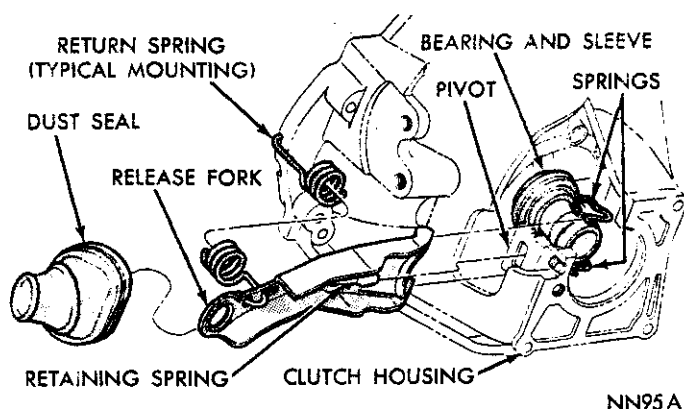

Fig. 8—Clutch Release Fork, Bearing and Sleeve
(5) On all models with the A-903 transmission, remove clip and plain washer securing interlock rod to torque shaft lever and remove spring washer, plain washer and rod from torque shaft.
(6) Remove clutch release bearing and sleeve assembly from clutch release fork (Fig. 8) then remove release fork and boot from clutch housing.
(9) Engage fork fingers under clutch sleeve retaining springs. **Be sure retaining springs on sleeve have lateral freedom** (Fig. 8).
(10) Be sure groove in seal is engaged in seal opening flange in clutch housing (Fig. 8).
(2) Remove spring washer securing fork rod to torque shaft lever and remove rod from torque shaft.
(3) Pry dust seal out of clutch housing and remove from release fork (Fig. 8).
(4) Grasp outer end of clutch fork and pull fork out and free of retaining springs and pivot (Fig. 8). The clutch fork has a riveted flat retaining spring that is engaged in a hole in the pivot. The clutch release fork pivot is an 'L' shaped bracket bolted inside the clutch housing.
(5) Remove fork from clutch housing.
(3) Install clutch release fork in housing, being careful to engage flat retaining spring in hole in pivot and under retaining springs of bearing sleeve.
(4) Install dust seal over release fork and engage groove of seal in clutch housing (Fig. 8).
(1) Install bearing and sleeve assembly in clutch housing, engaging fork under sleeve springs (Fig. 8).